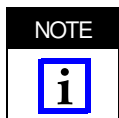
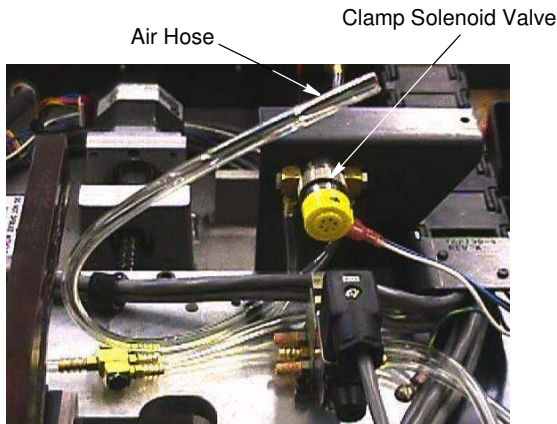

Figure 1
Figure 4
The 180° Cable Clamp Assembly 1424035-1 is designed to be used in CHAMPOMATOR\* 2.5 Bench Terminating Machine 762734-[ ]. The machine must be equipped with a clamp solenoid valve (shown in Figure 4) and a controller having software at Rev. 3.03.05 or later. To use the machine without these requirements, use 180° Cable Clamp Assembly 768830-1 and follow the instructions packaged with that cable clamp.
## 2. DESCRIPTION (Figure 1)
7. On the machine, plug the air hose from the clamp solenoid valve (see Figure 4) onto the fitting of the cable clamp (refer to Figure 1).